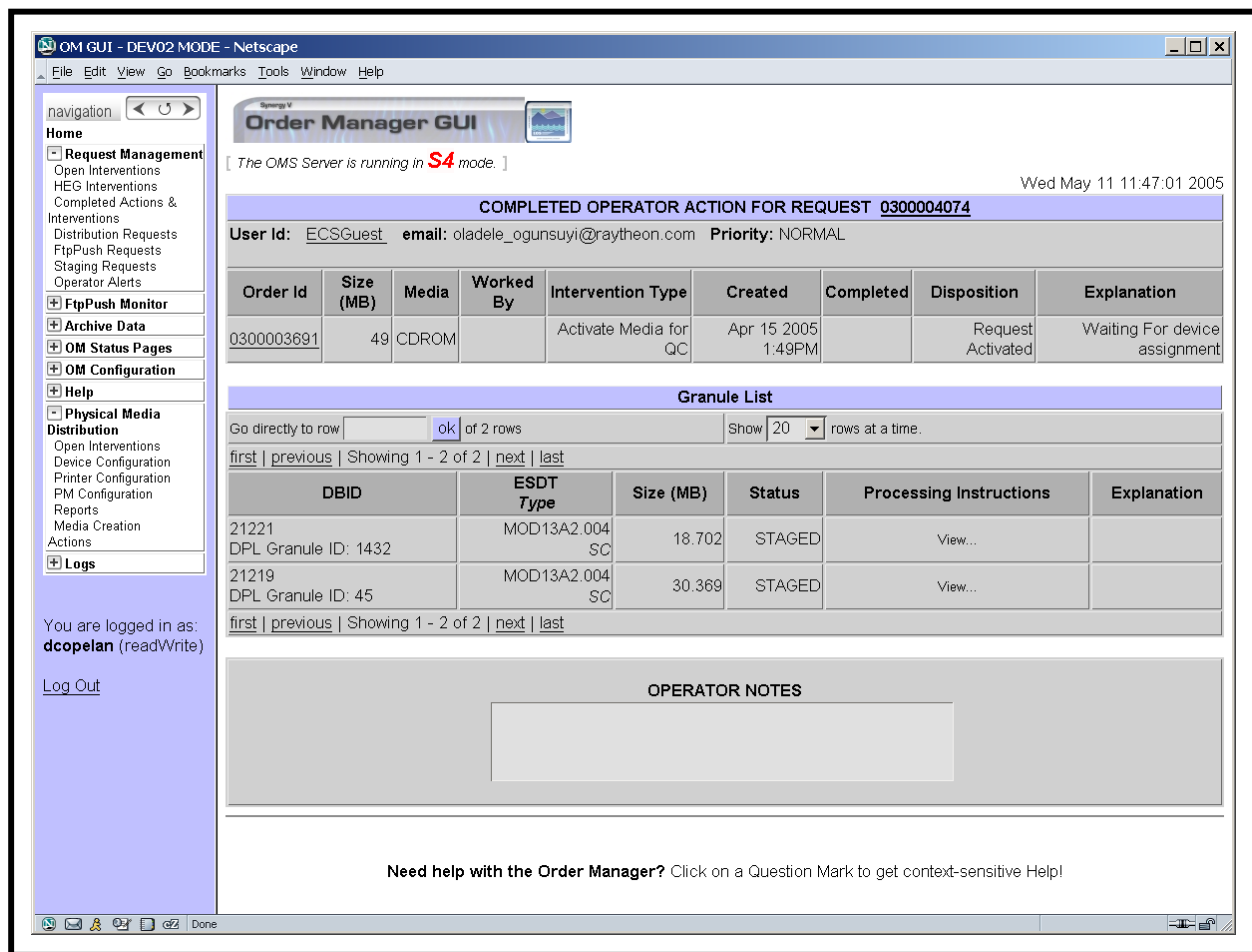

Figure 52. Completed Intervention/Action Detail (Completed Operator Intervention/Action for Request X) Page
- For example, clicking on Request ID **0300004174** brings up a **Completed Intervention/Action Detail** (i.e., **Completed Operator Action for Request 0300004174**) page (Figure 52).
- **Size (MB).**